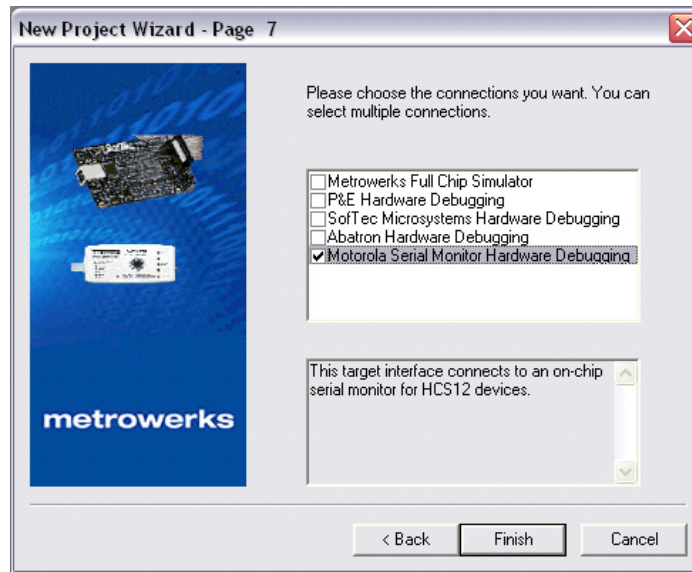

Figure 5. New Project Wizard — Page 7
- q. Click “Next” — Page 7 of the new project wizard will appear (see Figure 5)